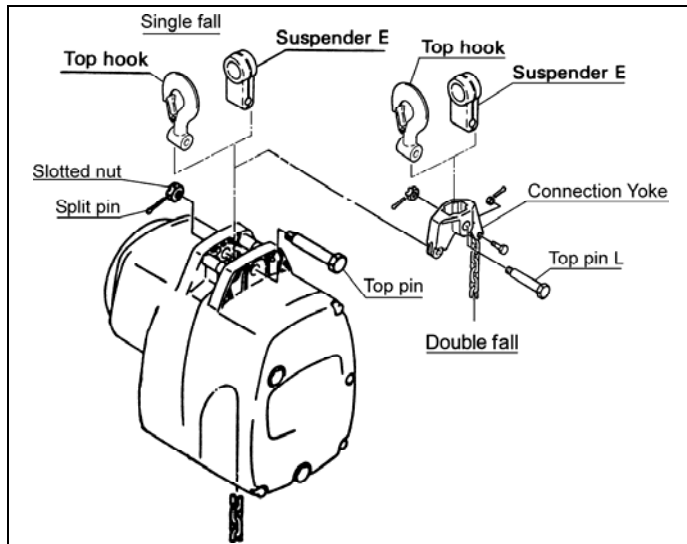
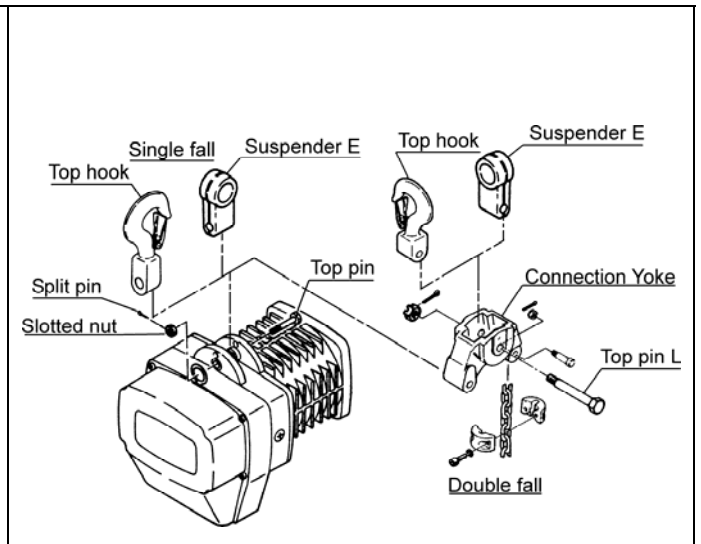

Figure 3-9 Model SH
Figure 3-10 Model ES
- 4) Single Fall Units – Remove the Top Hook assembly by removing the Split Pin from the Slotted Nut. Remove the Slotted Nut, pull out the Top Pin, and remove the Top Hook. Replace with Suspender E, replace Top Pin, Slotted Nut and Split Pin. Be sure to bend Split Pin ends of the Split Pin away from each other sufficiently so the Split Pin remains captive in the Top Pin. Refer to Figures 3-9 or Figure 3-10 for the appropriate product. Attach hoist to the trolley.
- 5) Double Fall Units (except 5 ton ES) – Remove the Top Hook assembly by removing the Split Pin from the Slotted Nut. Remove the Slotted Nut, pull out the Top Pin L from the Connection Yoke, and remove Top Hook. Replace with Suspender E, replace Top Pin, Slotted Nut and Split Pin. Be sure to bend Split Pin ends of the Split Pin away from each other sufficiently so the Split Pin remains captive in the Top Pin. Refer to Figures 3-9 or Figure 3-10 for the appropriate product. Attach hoist to the trolley.